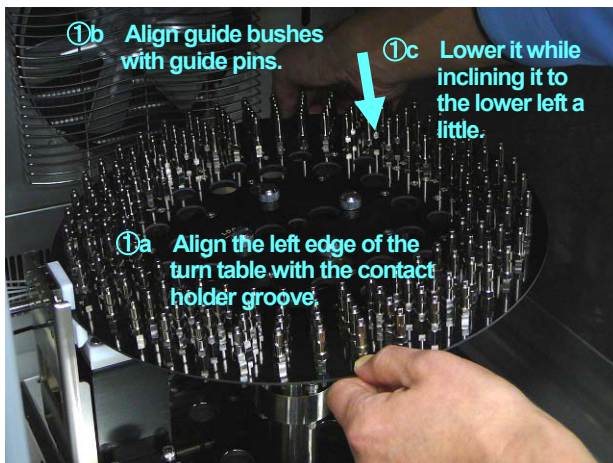

Fig.3-7 Installation of turn table
② In this state, lower the turn table slowly along the guide pin (see Fig. 3-7).